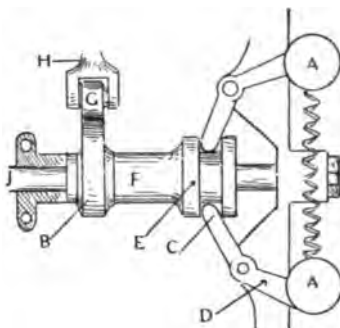

Fig. 3
type of valve-controlling governor is shown in Fig. 3. When the speed of the motor exceeds that for which the governor is adjusted the balls (A) swing outward by centrifugal force and cause the cam (B) to move to the right by the action of the levers (C) on the arms (D). The cam is thus withdrawn from its contact with the valve-lifting roller (G), and the valve remains closed until the speed is reduced, and the action of the spring between the balls overcomes the centrifugal force and brings the cam back into contact with the roller.